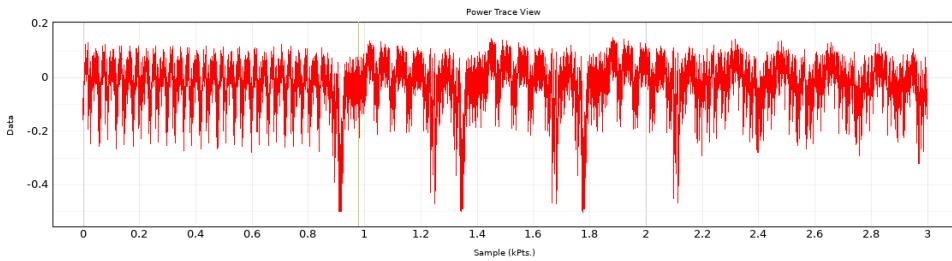

Figure 15.1: Example Power Trace of an AES128 encryption - can you tell why it is AES128?
- If we don’t know it already, use Simple Power Analysis to identify key lengths - see fig 15.1